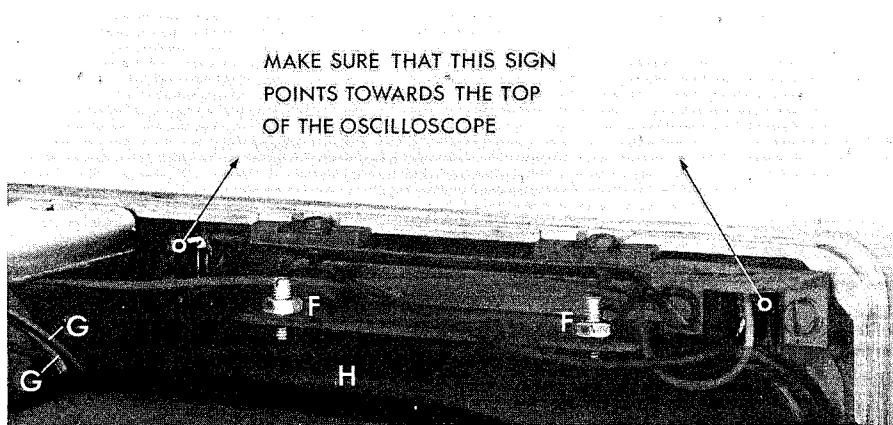

Fig. 3.18. Dismantling
IMPORTANT: Take care that the sign on the lamp holder points towards the top of the oscilloscope in order to avoid short circuits (Fig. 3.18.)
- Loosen the 2 adjusting screws F (Fig. 3.18.)
- Unplug both wires G (Fig. 3.18.)
- Adjust screws F (Fig. 3.18.) in such a way that the tubes face fits optimally in the mask